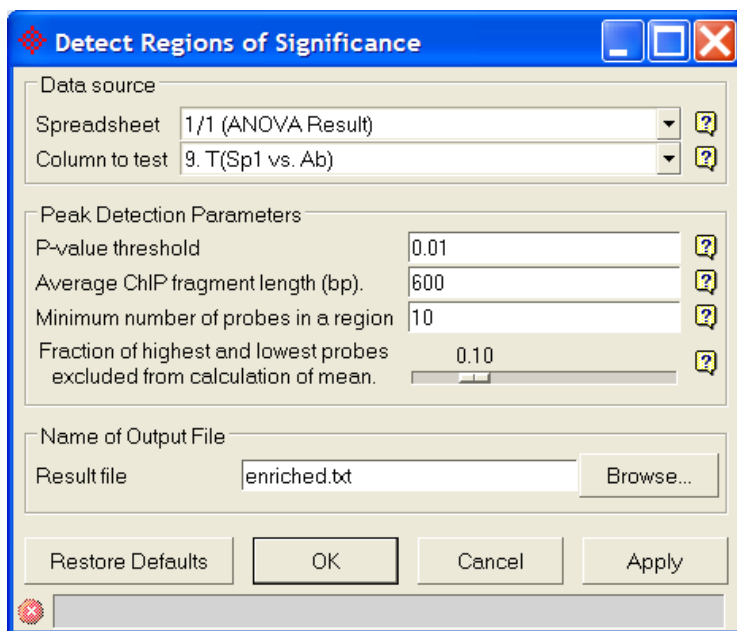

Figure 13. 1: Configuring the Detect Regions of Significance dialog
- After creating an ANOVA probe level result with t-statistics added for the contrast of interest, select **Detect Regions of Significance** from the *Tiling* workflow in *Analysis* section. The *Detect Regions of Significance* dialog will appear (Figure 13. 1)